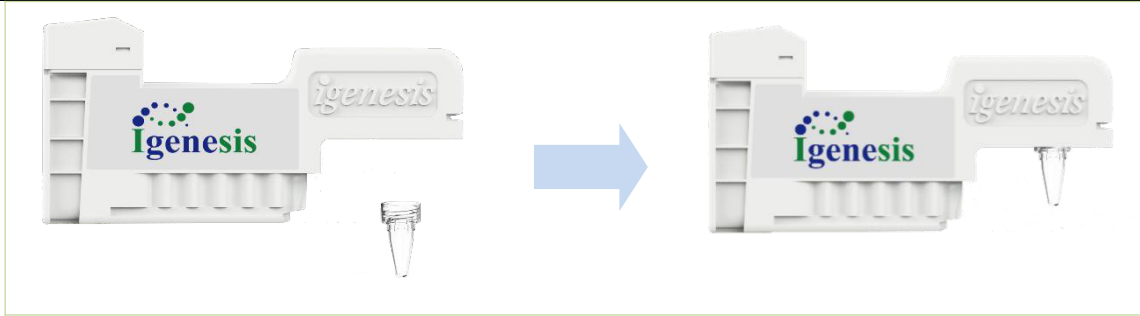

Figure 6-9 Load PCR Tube
- The user prepares the PCR reagent kit and PCR kit tube, replaces the empty PCR tube in the PCR reagent kit with PCR kit tube, and ensure the PCR kit tube is tightened to the qPCR consumable rack as shown in figure 6-9. Then load qPCR consumables into the iCassette tray.